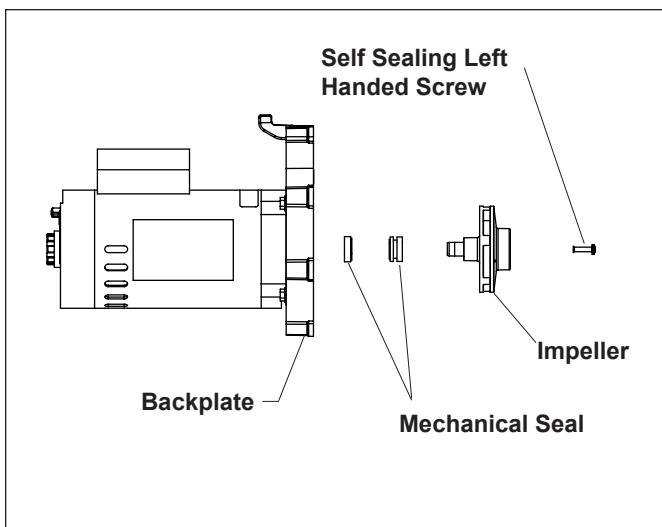

Figure 5. Remove the Impeller
7. Hold the exposed motor shaft with a ½" wrench while removing the impeller center screw using a #3 Phillips screwdriver (see Figure 5).